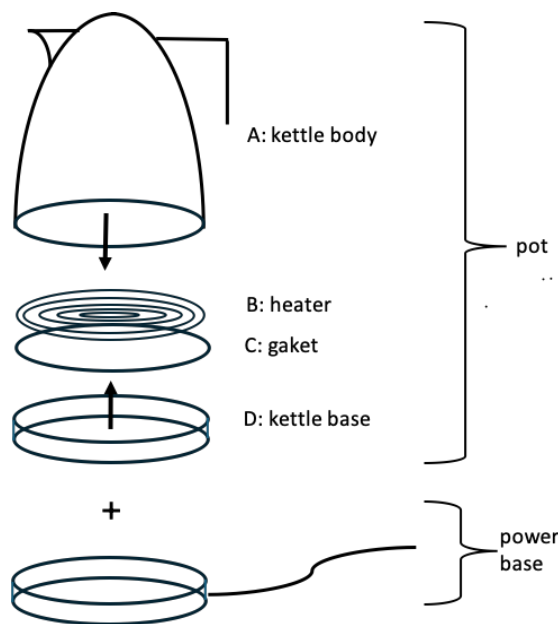

Fig. 1. Parts of the kettle
- Incorrect component dimensions, specifically the lower diameter of the kettle body and its base diameter (see Fig. 1). Indeed, measurements showed that some of the leaking kettles had deviations from specifications, but among the complained-about products, there were also some that fully complied with the requirements.
To test this, we selected eight leaking kettles and eight good ones. All the kettles were disassembled into their individual components—labeled A, B, C, and D (as shown in Figure 1)—and reassembled using the exact same components.